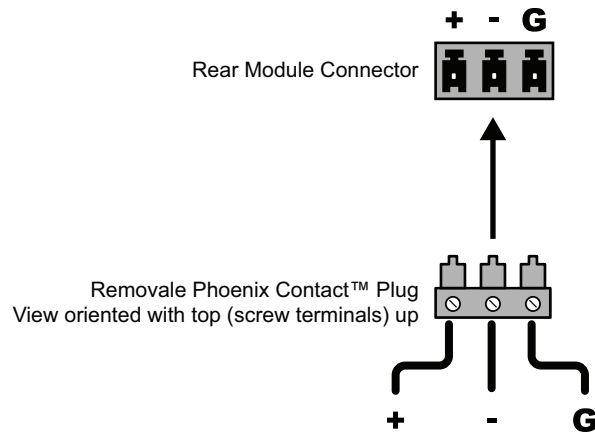

Figure 2.4 Connector Wiring for Rear Module Input Sockets
1. Insert an analog audio wire to the designated polarity slots on the connector of the rear module. (Figure 2.4)